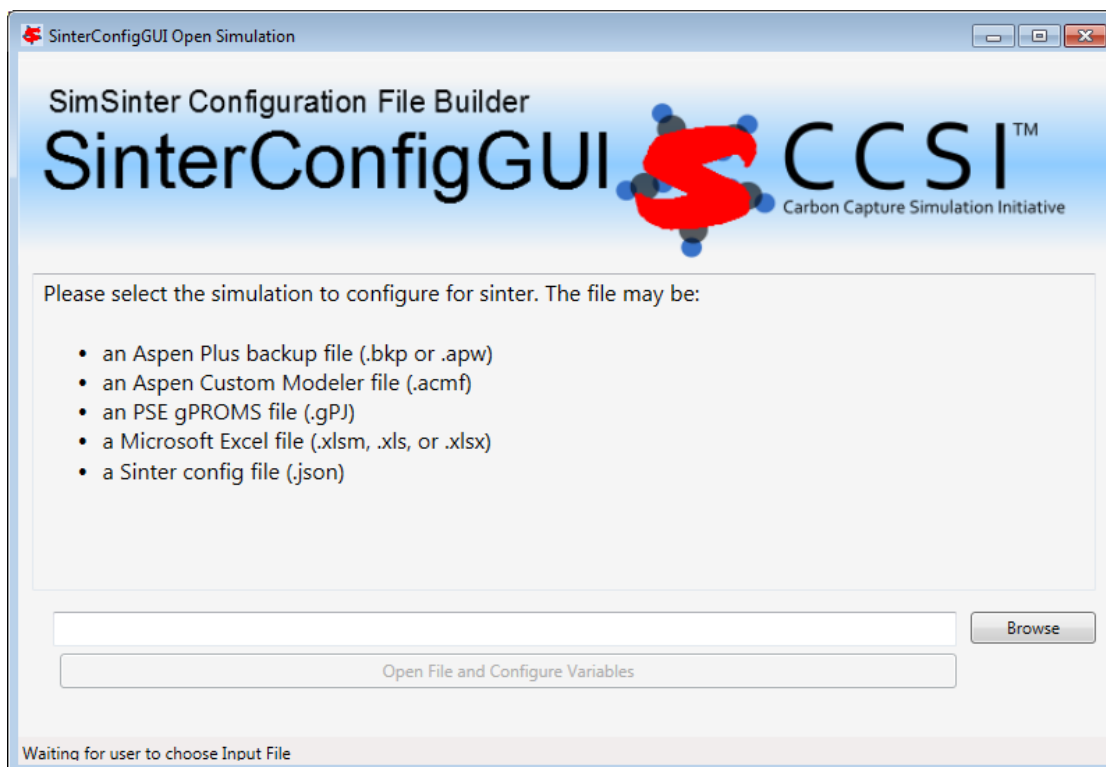

Figure 17: SinterConfigGUI Open Simulation window.
4. The SinterConfigGUI Simulation Meta-Data window displays as shown in Figure 17. Unlike the other simulations, gPROMS has not started up in any way. SinterConfigGUI does not get information from gPROMS directly, it must parse the .gPJ file instead.